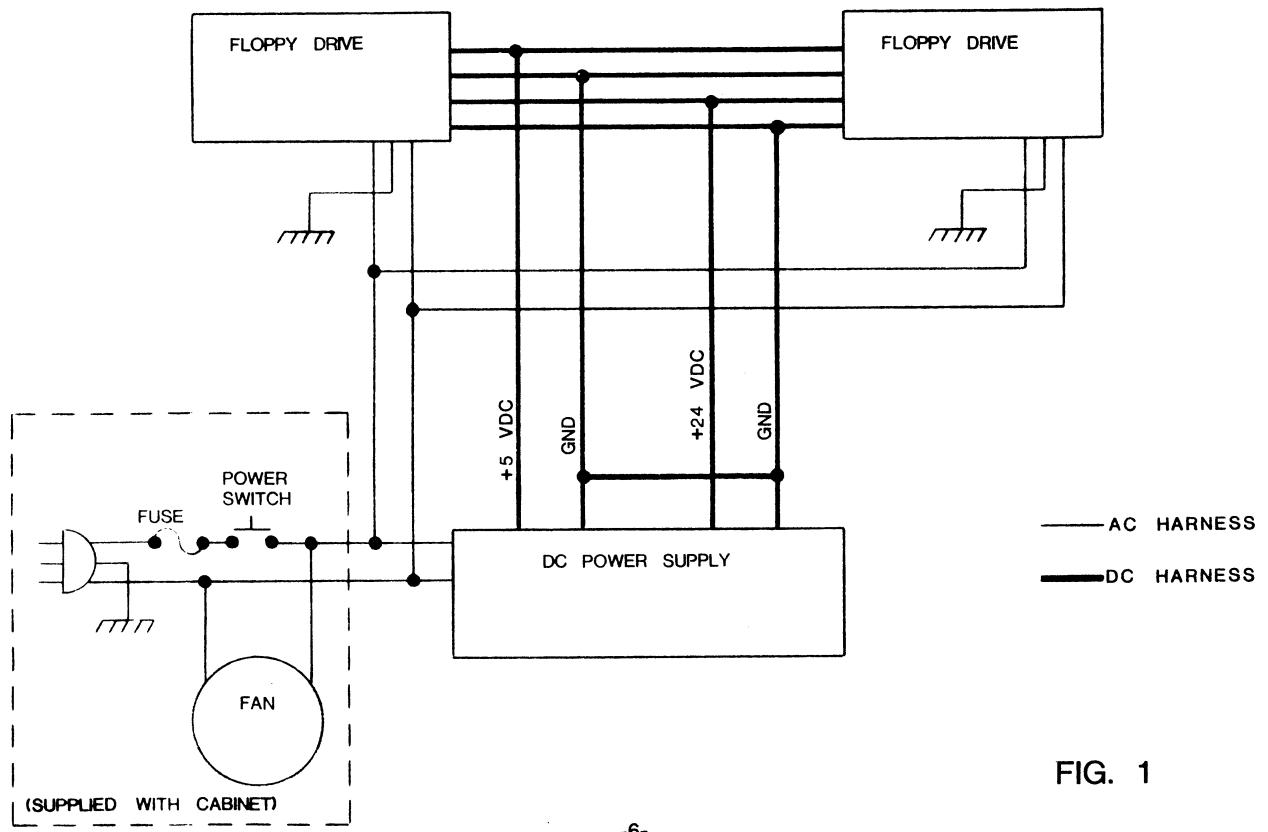

FIG. 1
1. **Power Supply.** Each drive requires both AC and DC power sources as shown in Figure 1. AC connections for each drive are supplied with the drive. DC connections (+24V, 24V ground, +5V, 5V ground) to each drive are provided with the Digital Group floppy power supply. Be sure all power sources are properly fused and grounded. Complete documentation is provided with each power supply.